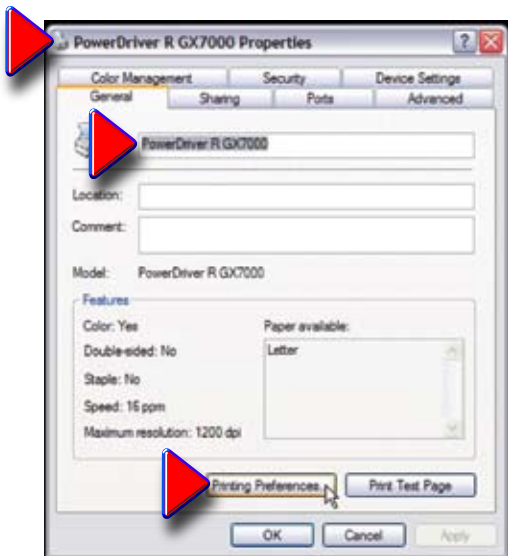

Figure 3
- This takes you to the **“PowerDriver R GX7000 Properties”** Screen shown in **Figure 3** below.